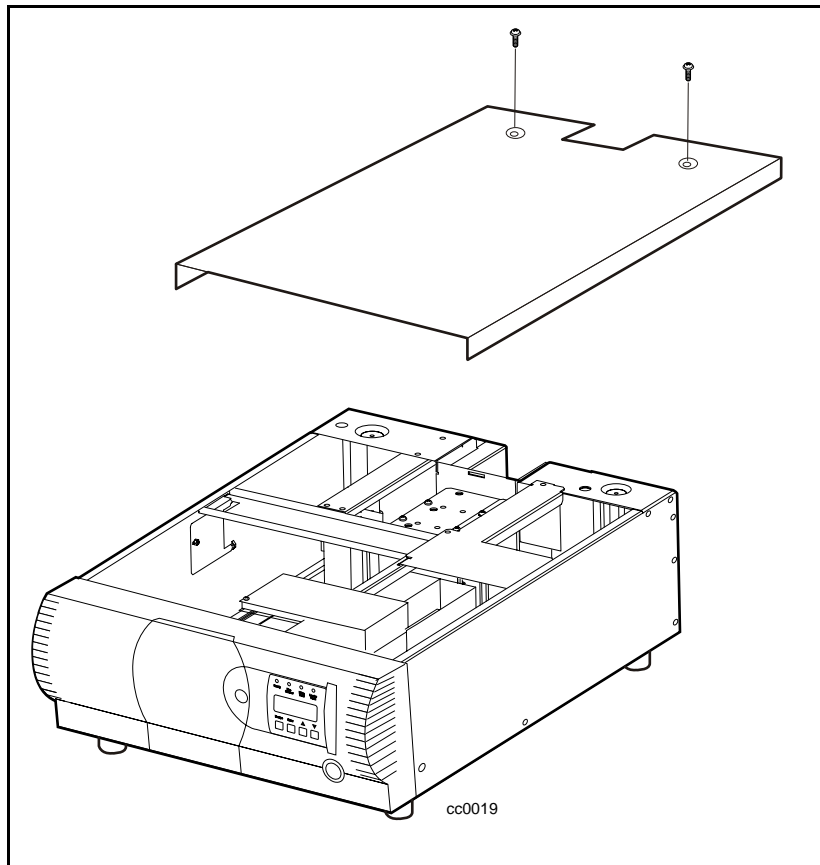

Figure C-5. Installing the rackmount top cover
Install the rackmount top cover to protect the internal components of the Library prior to mounting it into a storage cabinet (see Figure C-5). To install the rackmount top cover:
3. Secure the top cover to the Library using two screws (see Figure C-5).